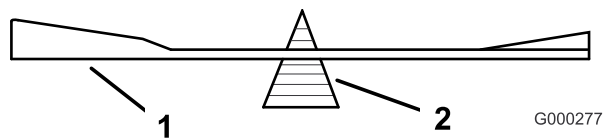

Figure 68
2. Check the balance of the blade by putting it on a blade balancer (Figure 68). If the blade stays in a horizontal
position, the blade is balanced and can be used. If the blade is not balanced, file some metal off the end of the sail area only (Figure 68). Repeat this procedure until the blade is balanced.